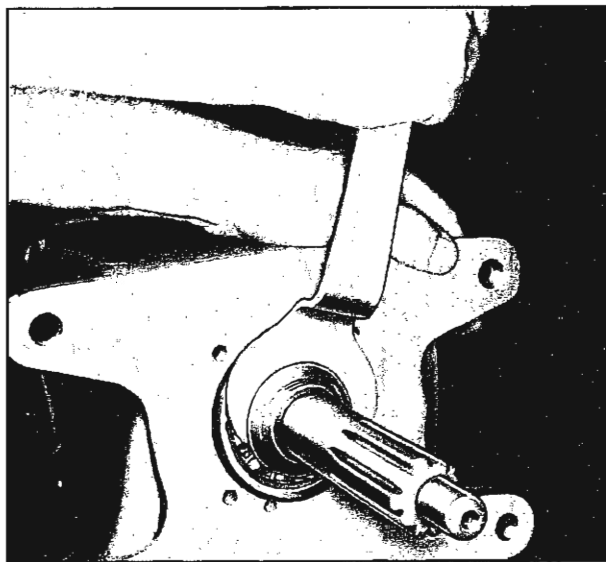

Fig. 7A-14 Removing or Replacing Main Drive Gear Retaining Nut
4. Remove the main drive gear retaining nut (Fig. 7A-14) using tool J-0933 after locking up transmission by shifting into two gears.